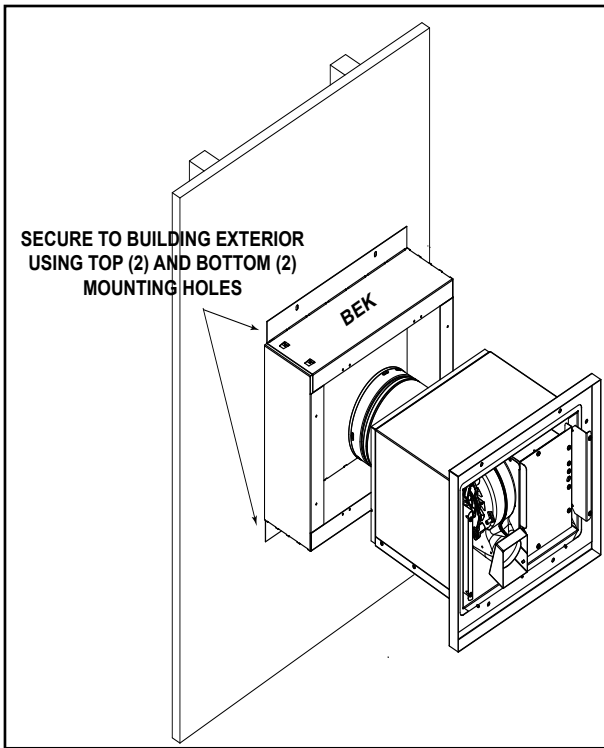
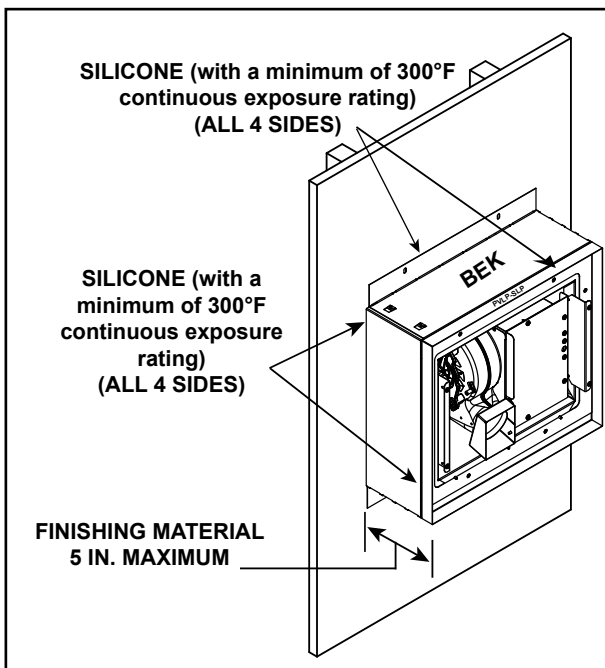

Figure 3.21 SLP-LPC Attached to LPC-BEK
Figure 3.22 Silicone Weather Sealing
19. Apply a bead of silicone (with a minimum of 300° F continuous exposure rating) around the entire metal flange of the PVLP-SLP. See Figure 3.23. Align with PVLP-BEK as shown in Figure 3.21. Ensure cap is level and square, then secure PVLP-SLP to PVLP-BEK as shown in Figure 3.22.
20. After the PVLP-SLP has been secured to the PVLP-BEK, silicone (with a minimum of 300° F continuous exposure rating) should be applied around outer edge of PVLP-BEK where it meets the building exterior. Silicone (with a minimum of 300° F continuous exposure rating) should also be applied where PVLP-SLP and PVLP-BEK meet, as shown in Figure 3.22.